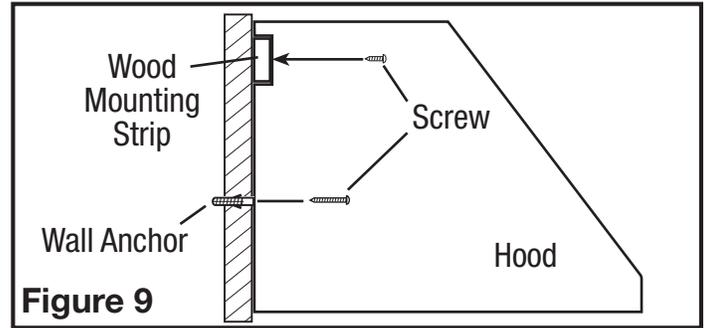

Figure 9
3. Rest the cavity in the back side of the hood on the wood strip and secure hood to wood strip with the included 3/4" screws through the holes in the back of the hood that line up with the wood strip (use 6 screws for 30" and 36" widths and 8 screws for larger widths) Secure the bottom of the hood by installing the screws provided into the wall anchors (Figure 9).